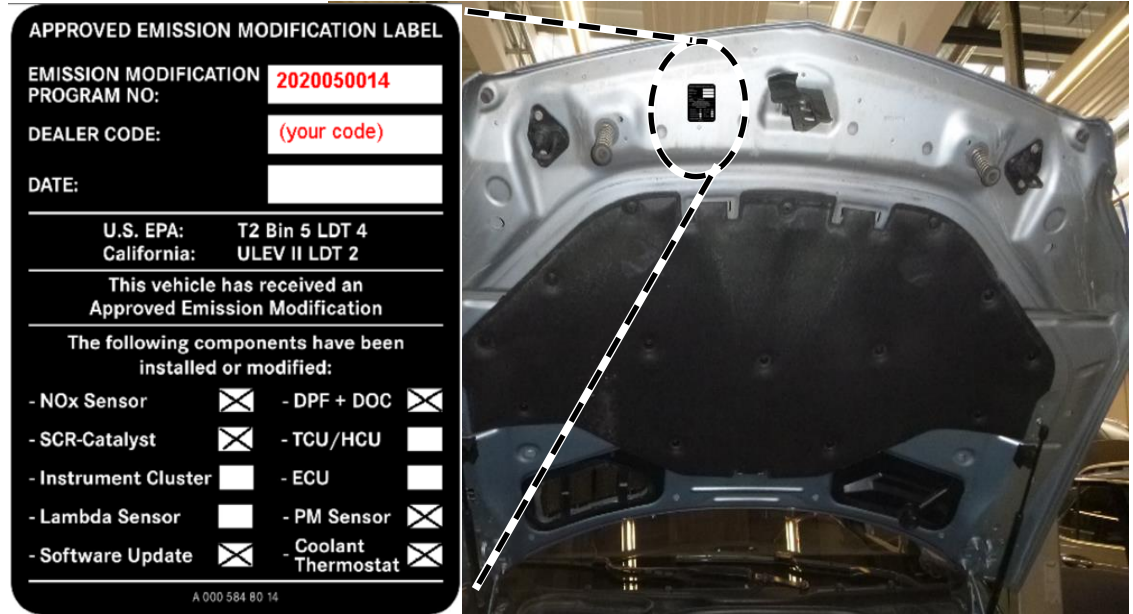

Figure 12
9. Clean the bonding surface of the hood and attach the adhesive label (Figure 12).